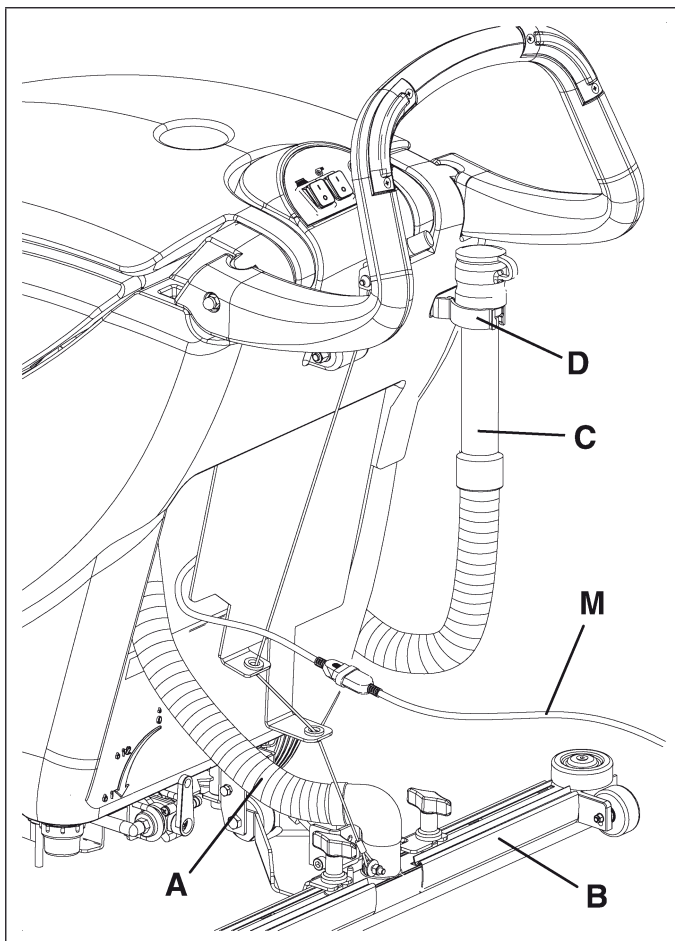

Figure 14
3. Make sure that the power supply cable (M, Fig. 14) is disconnected from the electrical mains.
4. Disconnect the vacuum hose (A, Fig. 14) from the squeegee (B).
5. Disconnect the recovery tank drain hose (C, Fig. 14) from the bracket (D).